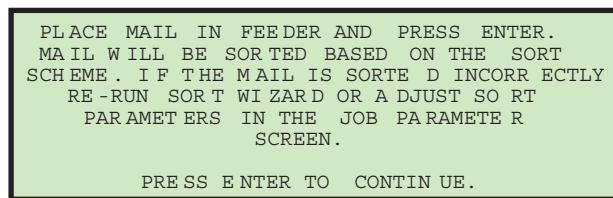

Figure 44: Informational screen
17. If you select YES, an informational screen is displayed (Figure 44).